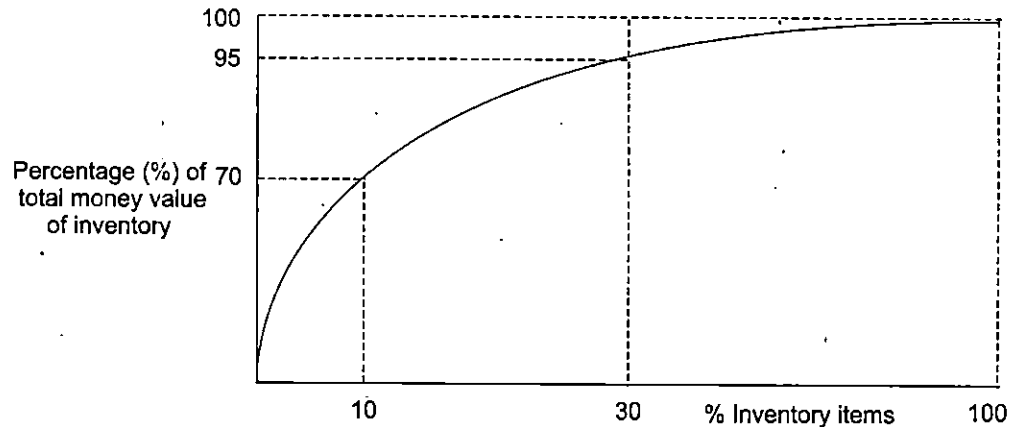

Fig. 9.10
ABC approach is based on Pareto's analysis, named after the Italian economist Vilfred Pareto. The Pareto principle states that "out of a large number of activities, it is only a small number that account for the major result, it means that the manager should concentrate on a small number of activities/items out of a large number of activities/ items to get the best result or improve overall performance." Pareto's approach is most useful in inventory control. Figure 9.10 shows the distribution of percentage of money invested in different categories of inventory along with percentage of inventory items.
It is clear from Figure 9.10 that 10% of inventory items are responsible for 70% of the total money invested in inventory, another 20% of inventory accounts for 25% of the total inventory cost and a large number of items (60%) concentrate only 5% towards the total cost. These figures have been taken only to illustrate the point and will vary from one organization to another through the general pattern of distribution of number and cost will be similar, hence the organization, specially large one which have huge inventories and consequently large amounts in terms of money invested, divide their materials into high price material, medium price material and low price material according to the significance of the material in usage or cost significance.